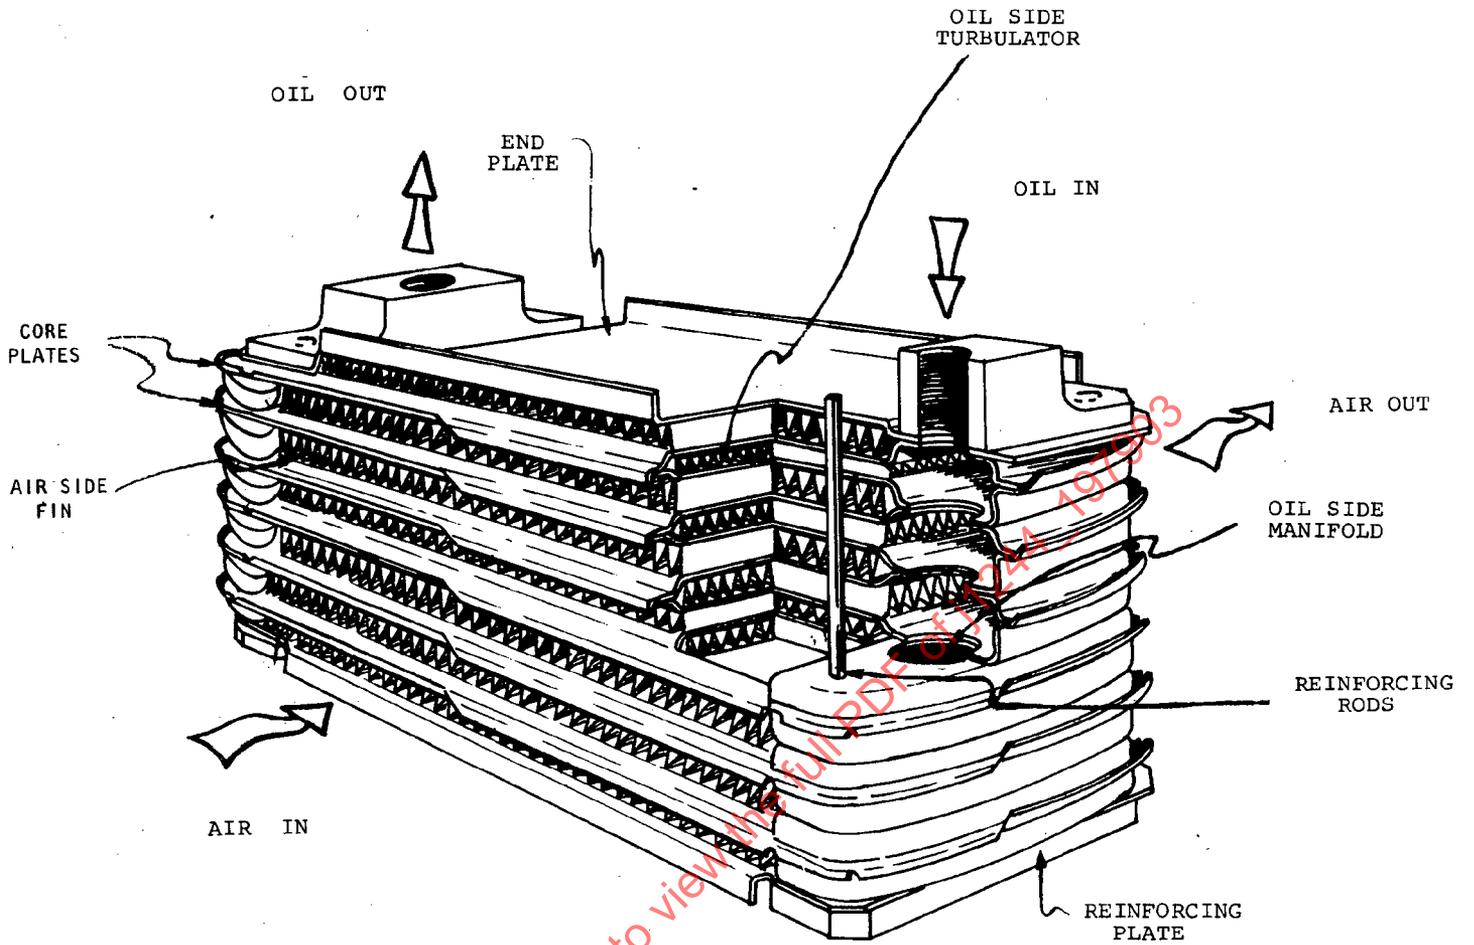

FIG. 1—PLATE FIN SEPARATOR OIL TO AIR COOLER
4.9 *Fin*—Extended Heat Transfer Surface—See Figs. 1, 4, and 6 in Nomenclature.
4.16 *Manifold*—See Tank or Bonnet. Refer to Figs. 1, 6, 7, and 8 in Nomenclature.
Note: For typical configurations see Figs. 1, 5, 6, and 8 in Nomenclature.